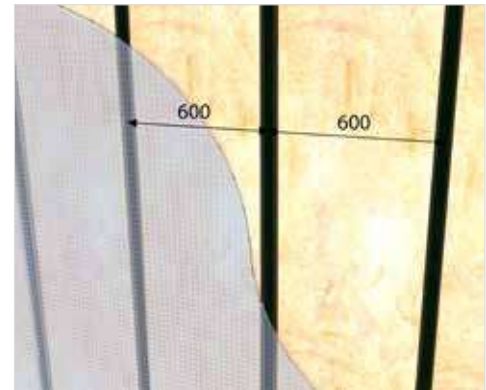

Fig. 1: Temporary fixing with Probond Tape
1. Apply single runs of Probond Tape at equal centres (max. 600mm) to substrate/studs/fixing rails to provide a temporary fixing point (Fig.1).
1. Apply single runs of Probond Tape at equal centres (max. 600mm) to substrate/studs/fixing rails to provide a temporary fixing point (Fig.1,7).